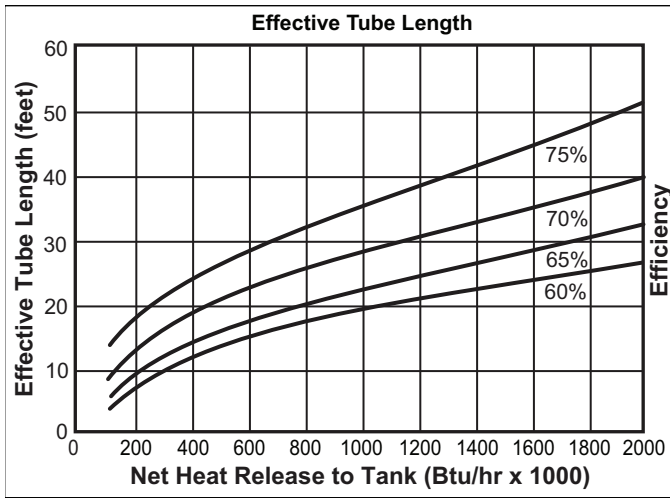

Figure 3.6.
Figure 3.6 below shows the relationship between the tube length and the efficiency.
- Effective tube length: (Figure 3.6) 37'